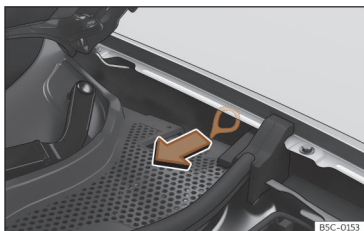

Fig. 210 Between the left wing panel and the engine bonnet hinge: Charging connector manual release mechanism puller.
The puller for the manual release mechanism is on the left hand side of the engine compartment, above the charging socket »» **Fig. 210**.
- Pull the puller»» **Fig. 210**.